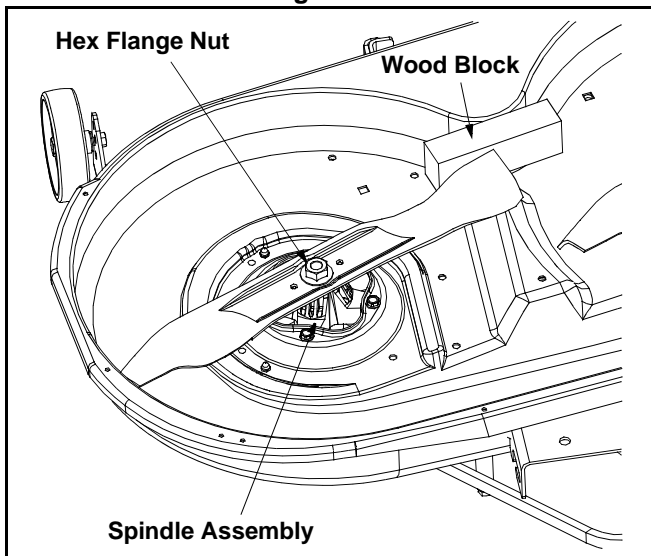

Figure 13
- Place a block of wood between the center deck housing baffle and the cutting blade to act as a stabilizer. See Figure 13.
- Use a 15/16" wrench to remove the hex flange nut that secures the blade to the spindle assembly. See Figure 13.